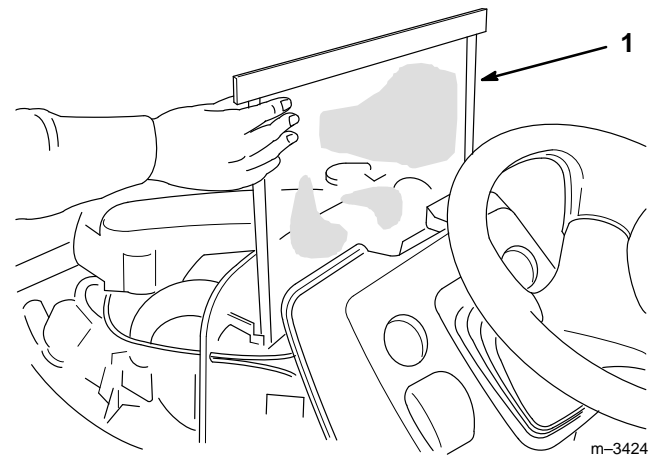

Figure 9
- The radiator screen (Fig. 9) is located between the radiator and the dash in the tractor. To remove it, pull it up from its retention slot. Wipe or wash off all accumulated debris from the screen, then reinstall it.